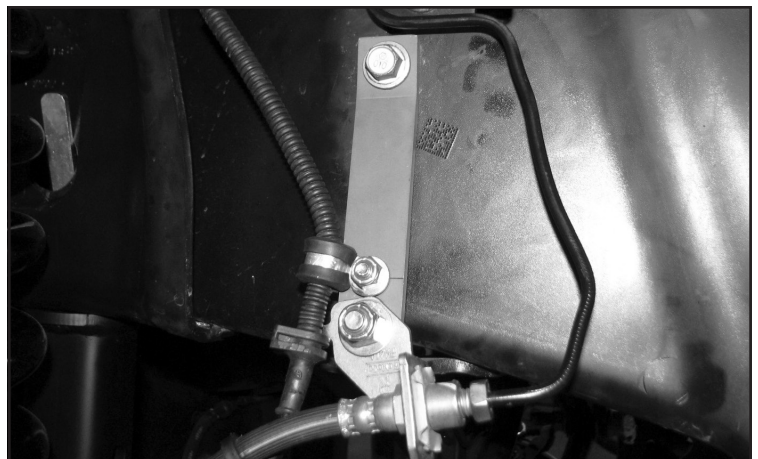

FIGURE 19 - STEP 25
24. **(DRIVER SIDE)** Install FT30660 (Brake line bracket) to the factory brake line tab using the supplied 3/8" hardware. Next, install the bracket to the frame using the factory hardware. Torque hardware to 52 ft-lbs. **SEE FIGURE 19**
25. **(PASSENGER SIDE)** Install FT30660 (Brake line bracket) to the factory brake line tab using the supplied 3/8" hardware (Use lower hole). Next, using the supplied rubber clamp and 1/4" hardware, attach the ABS line to the upper hole on the FT30660 bracket. Re attach to the frame using the factory hardware. Torque 3/8" & factory hardware to 52 ft-lbs. Torque 1/4" hardware to 14 ft-lbs. **SEE FIGURE 19**